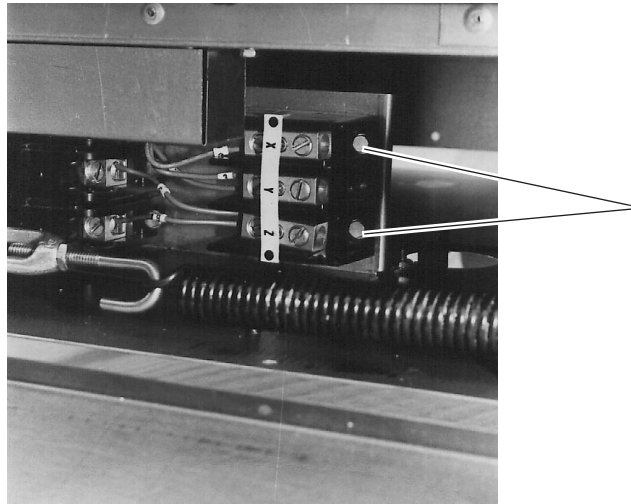

Fig. 48
3. Using a $\frac{5}{16}$ " socket wrench, remove (3) sheet metal screws securing the terminal block to the control housing. Remove the block from the appliance. (Fig. 48)